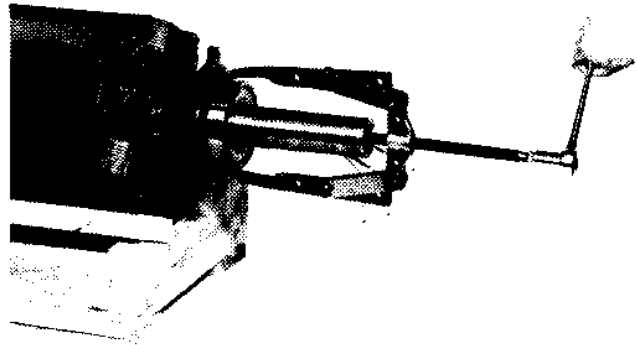

FIGURE 6-38
2. If the bearing is to be replaced, remove with a suitable puller. (Figure 6-38.)